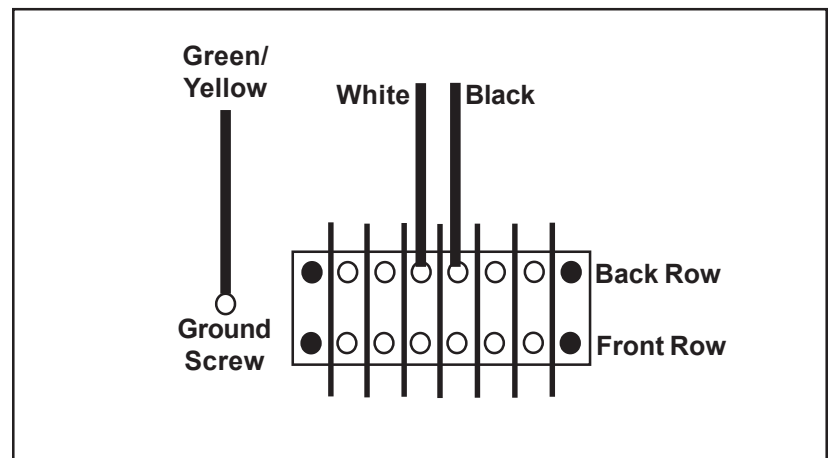

Figure 39. Electric Power Cord Wire Connections
2. Connect the three wires to the terminal strip and ground screw (Figure 39).